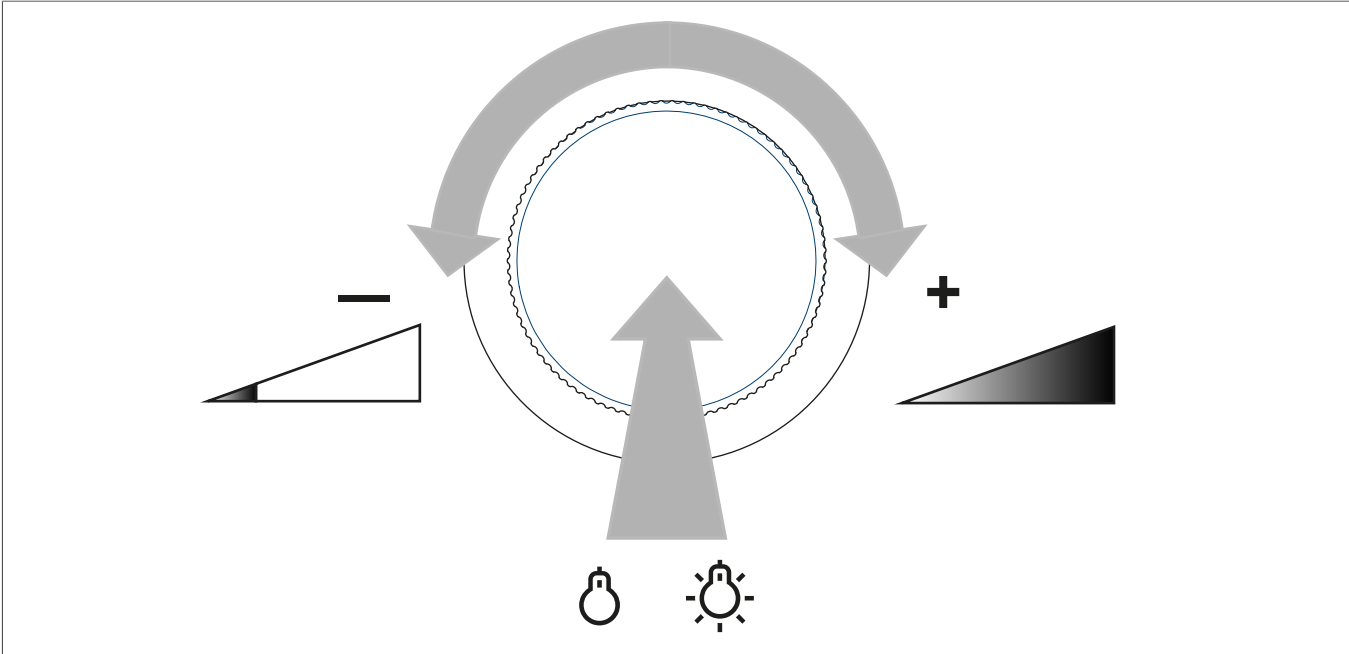

Fig. 1: Switch on the light or adjust the brightness
- Short press setting knob: Light switches on or off (figure 1).
- Turn the setting knob quickly: Brightness is changed quickly (figure 1).
- Slowly turn the setting knob: Brightness is changed slowly (figure 1).